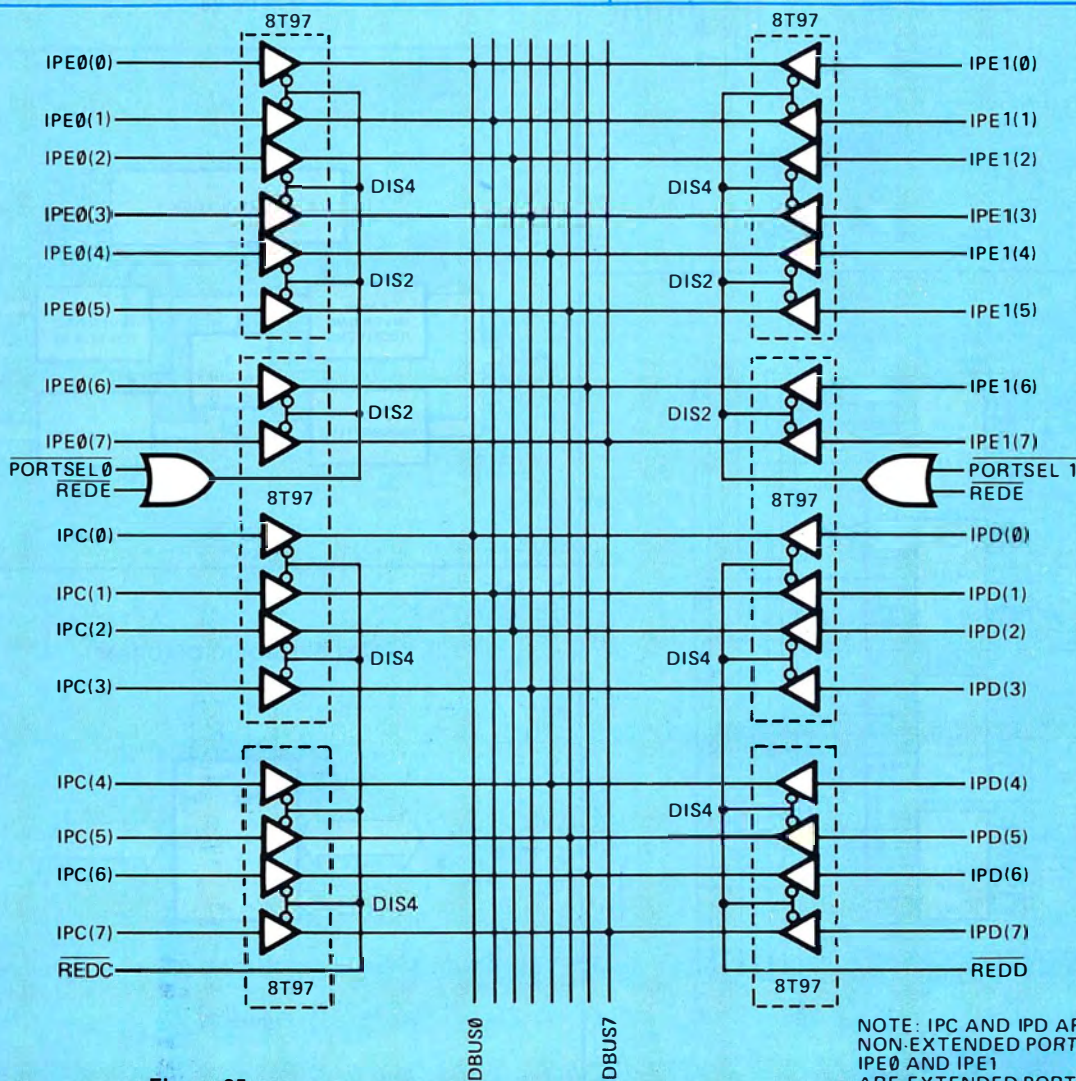

Figure 25
**GATED INPUT PORTS:** The simplest form of an input port is the tri-state gate. Figure 25 illustrates the use of the 8T97 high-speed HEX tri-state buffer for gated input ports. The 8T97 is non-inverting, and the tri-state control signals enable the buffers in groups of four and groups of two, so that 8-bit ports can be implemented efficiently.